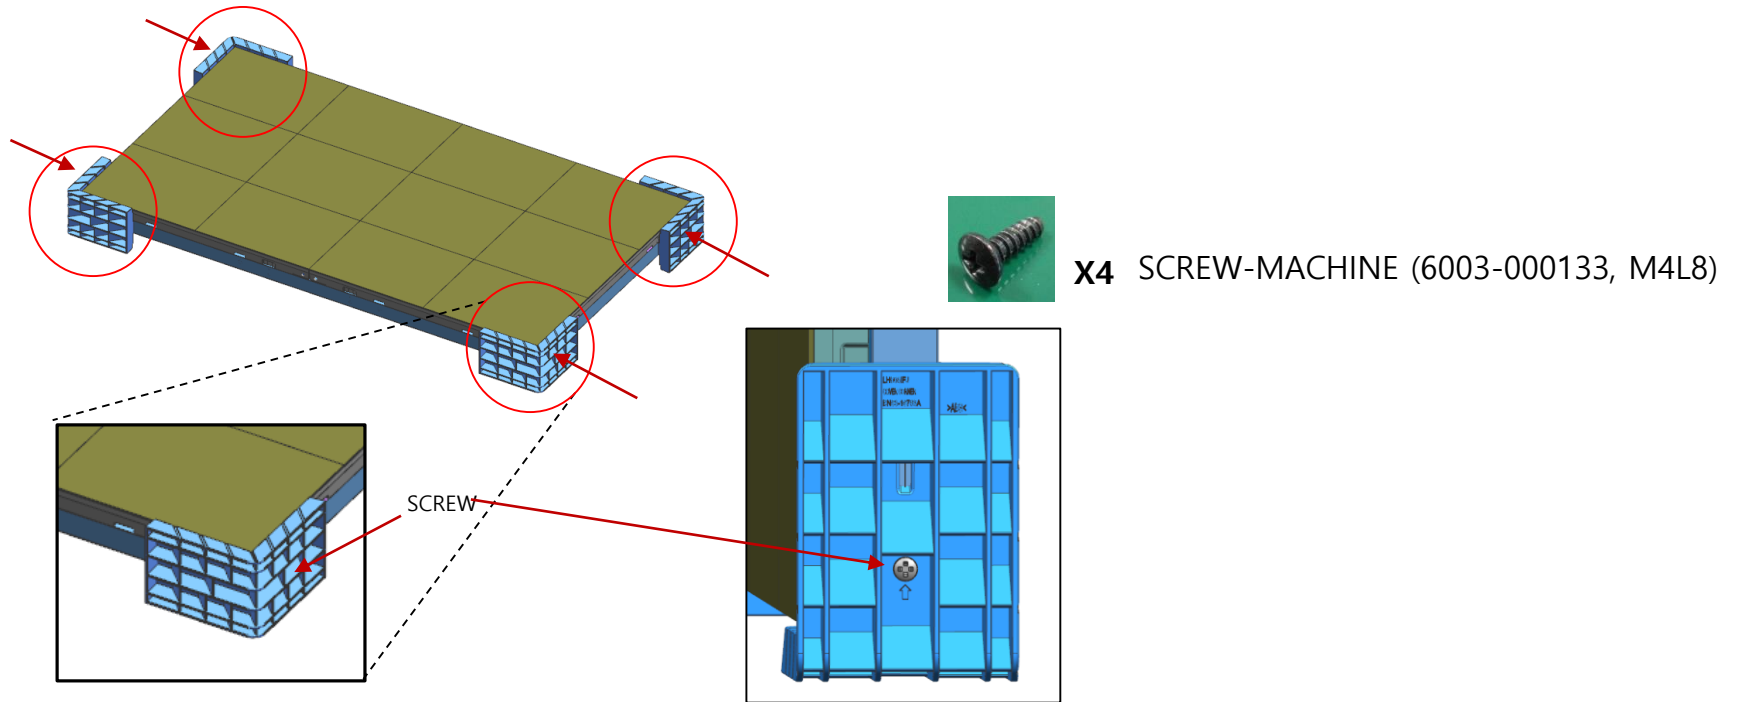

Fig.4 Cover Corner Removal
- ⑥ Unfasten the 4 screws on the Cover Corner area to separate those screws and Remove the protective sheet attached to the two sides (Top/Bottom). (Fig.4)